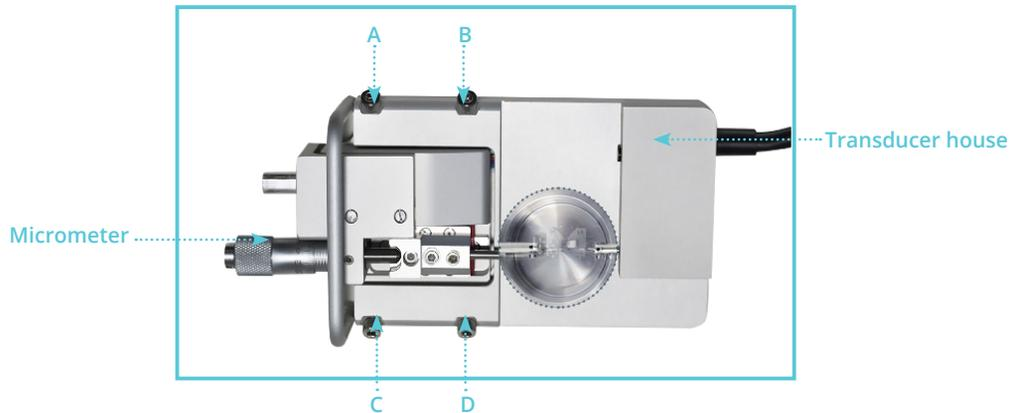
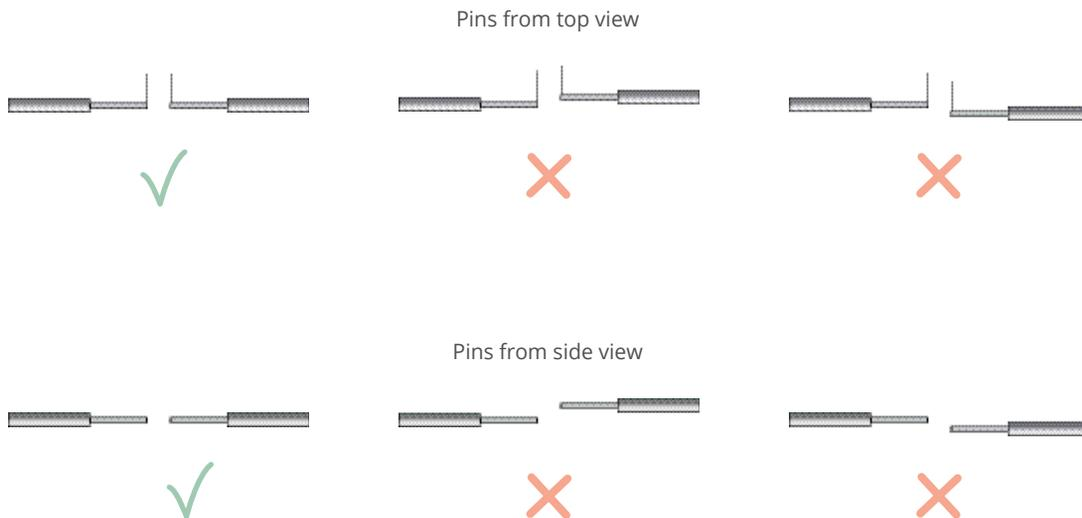

Figure 4.4 - Fine adjustments of the pins in the myograph chamber
Figure 4.5 - Illustrations of properly aligned pins (depicted on the far left) and incorrectly aligned pins (depicted in the middle and far right).
4.1.4 FINE-ADJUSTING THE PINS FOR LARGER VESSELS (FIGURE 4.4 AND FIGURE 4.5):